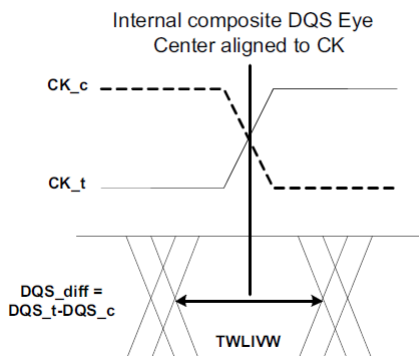

Figure 25. DQS_t/DQS_c to CK_t/CK_c timings at the DRAM pins referenced from the internal latch
- 28) tWLIWV is defined in a similar manner to tDIVW_Total, except that here it is a DQS input valid window with respect to CK. This would need to account for all VT (voltage and temperature) drift terms between CK and DQS within the DRAM that affect the write-leveling input valid window. The DQS input mask for timing with respect to CK is shown in Figure 25. The "total" mask (tWLIWV) defines the time the input signal must not encroach in order for the DQS input to be successfully captured by CK with a BER of lower than tbd. The mask is a receiver property and it is not the valid data-eye.